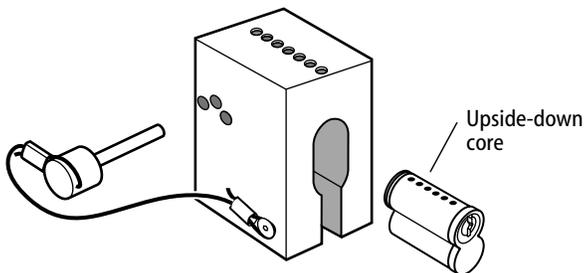

Figure 5— Inserting a combined, capped core upside-down
- 1 Put the capped, combined core into the capping block in the upside-down position, large holes on the bottom. See Figure 5.